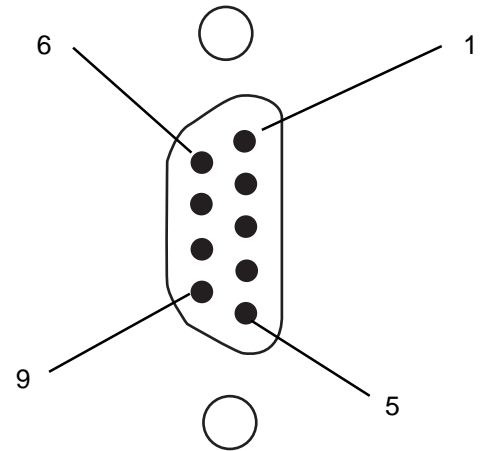

Figure 1:
The RS-232 electrical interface is implemented using three wires, transmitted data (TxD), received data (RXD), and signal ground (SG). RS-232 is not formally specified for distances greater than 50 feet (15 meters), although it may work. These connections on the 9-pin D connector are the same as the standard PC-AT connections for a DTE (data terminal equipment) device. These connections are given in Figure 1. Figure 2 shows a cable for connecting to other DTE devices using either the standard 25-pin D connectors or the PC-AT's 9-pin D connector.
RS-485 is a differential interface, implemented with two signal wires and a ground wire. This connection allows multiple devices to communicate on the same wires. This multidrop cabling method requires a unique address for each device on the bus. Figure 1 shows the connections on the main RS-232/RS-485 connector on the Communications Module. Figure 4 shows a cable for connecting to a host computer RS-485 port. Note that there is no standard for RS-485 connectors and the cable must be made for the specific device to be used on the other end. In order to maintain compliance with the CE Declaration of Conformity of the Controller, cables with a full braided shield, properly grounded at each end, must be used.